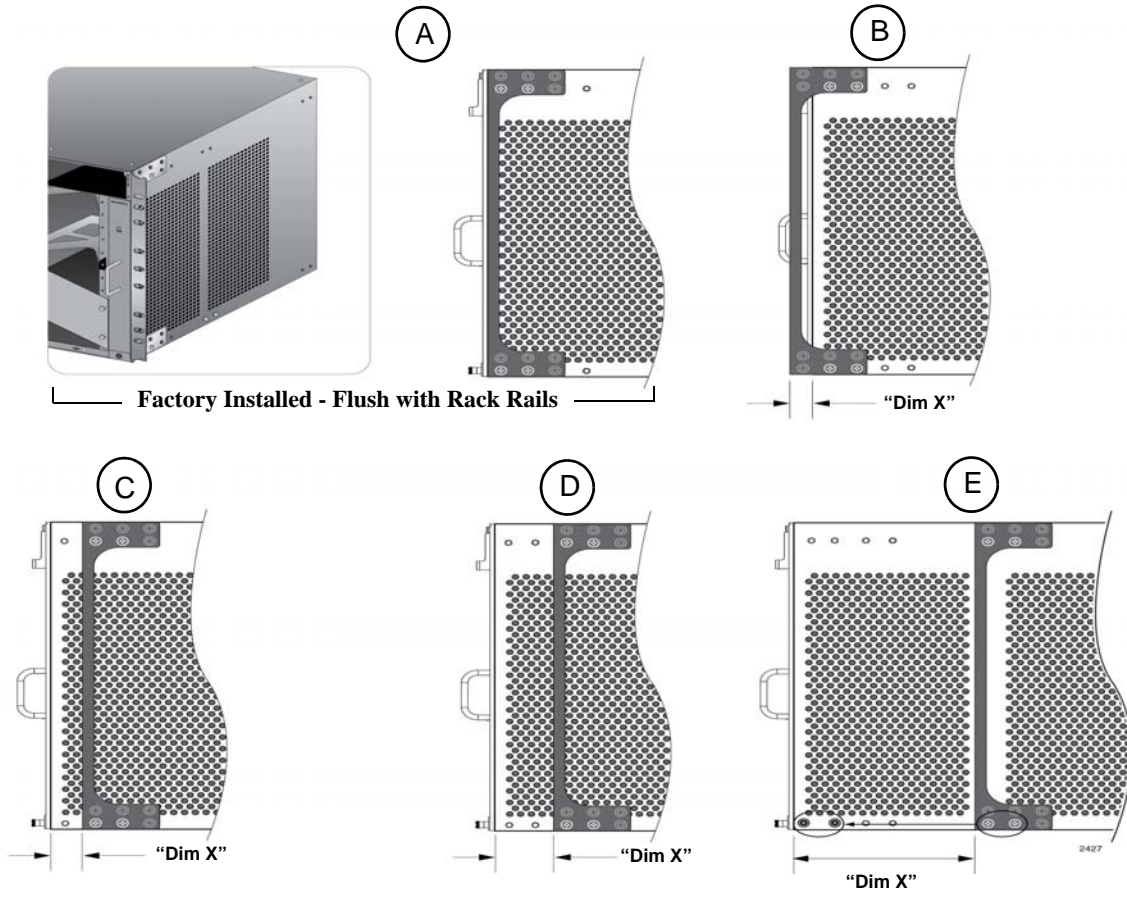
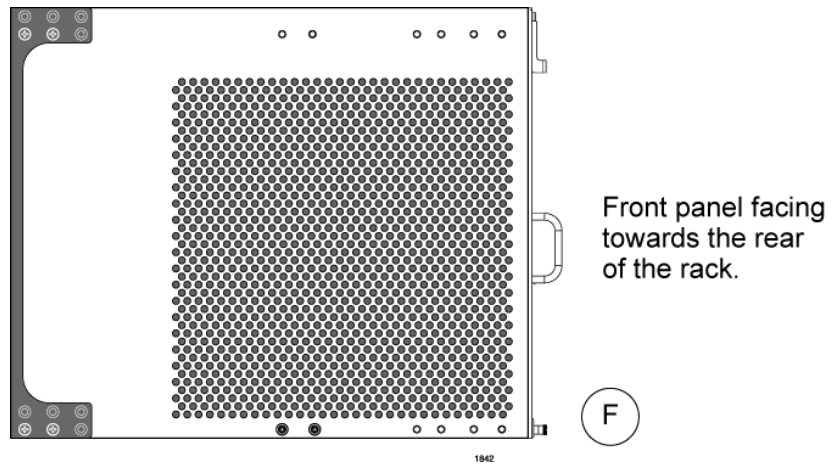

Figure 35. Rack Mounting Bracket Locations
Figure 36. Rack Bracket Locations for Reverse Position of Chassis
You adjust the brackets by removing them and re-installing them in different positions on the sides of the chassis. The different bracket positions are listed in Table 26 and illustrated in Figure 35 on page 99 and Figure 36 on page 99. Please review the following information before moving the brackets:
- To install the rack mount brackets in position “E,” you have to remove the two chassis screws from the bottom-middle section of the chassis and re-install them in front where the rack mount bracket screws were originally, as shown in Figure 35 on page 99.
- The dimension (X) between the front panel and the rack rails is given for each rack mounting bracket position in Table 26.